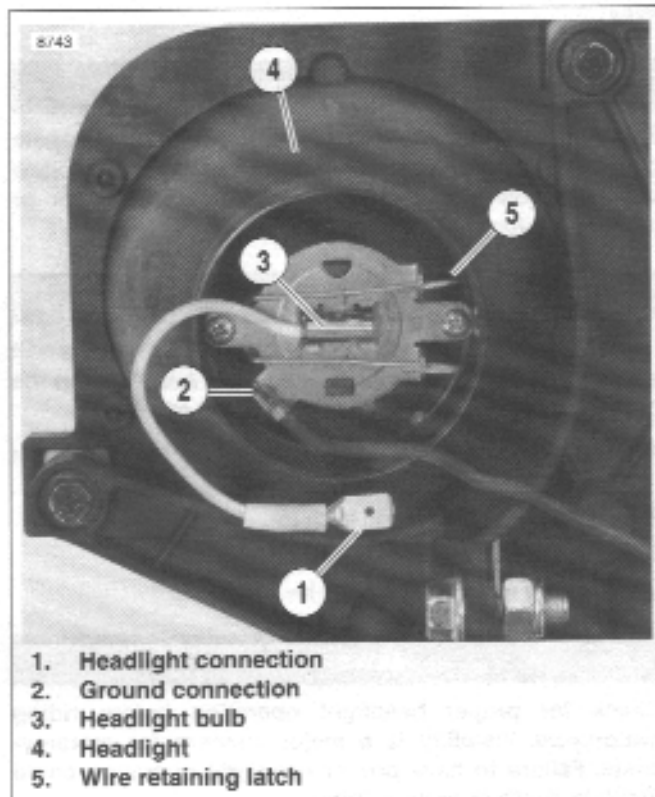

Figure 7-43. Headlight Bulb
2. See Figure 7-43. Disconnect headlight connection (1).
3. Release wire retaining latch (5) from headlight housing clips.
1. See Figure 7-43. Align tabs on bulb (3) with tabs on headlight (4). Insert bulb.
2. Close the wire retaining latch (5).